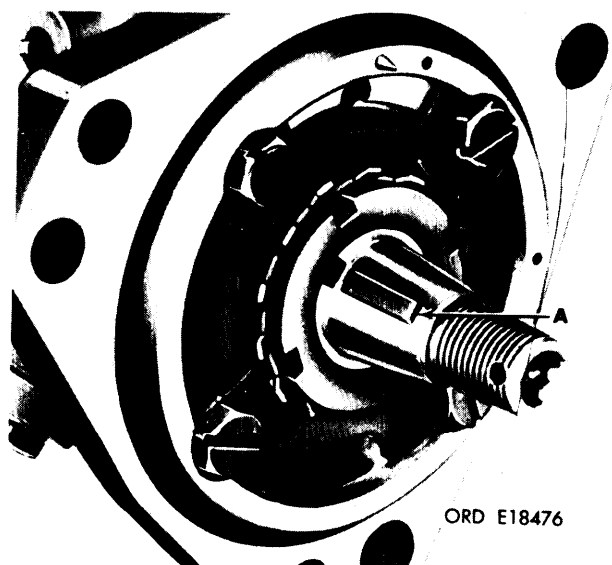

Figure 3-19. Removing or installing pump Woodruff key.
f. Refer to figure 3-19. Remove Woodruff key (A).